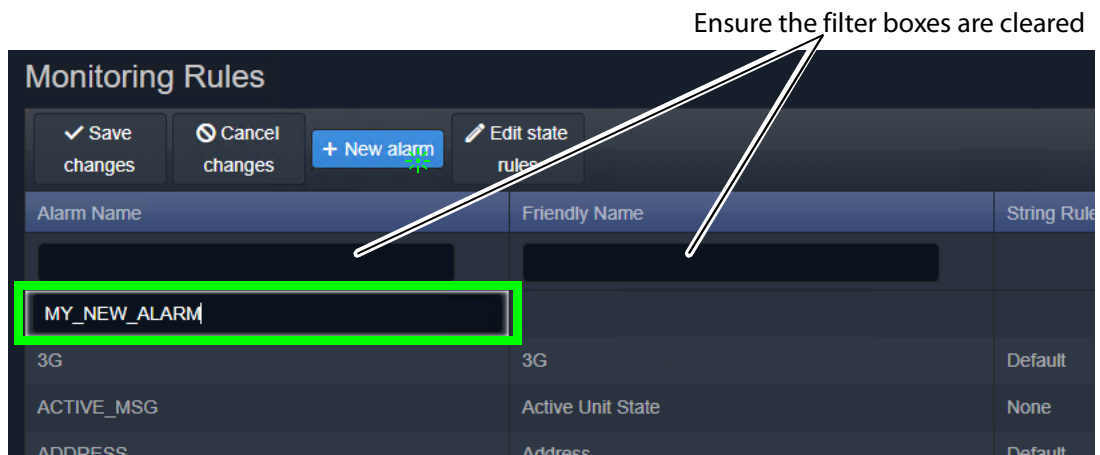

Figure 63: Enter Alarm Name
- 2 Begin to enter the new **Alarm's** name and select a name from the drop-down list (or enter a new name, if required). This is the message Header that the new Monitoring rule will apply to. See Figure 63.